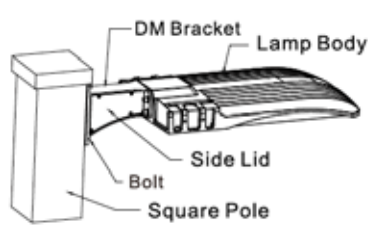

Figure 3-2
- b. Fix the direct bracket to the square pole with bolt. Connect the power cable to the pole cable, make sure good protection on the wire connection, and put the wire in the direct bracket; close the side lid and tighten it, (Figure 3-2) then finish in installation.